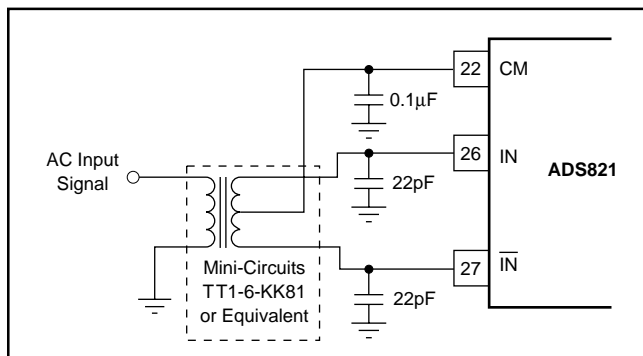

FIGURE 5. AC-Coupled, Single-Ended to Differential Drive Circuit Using a Transformer.
The ADS821 has a differential input with a common-mode of +2.25V. For AC-coupled applications, the simplest way to create this differential input is to drive the primary winding of a transformer with a single-ended input. A differential output is created on the secondary if the center tap is tied to the common-mode (CM) voltage of +2.25V, as per Figure 5. This transformer-coupled input arrangement provides good high-frequency AC performance. It is important to select a transformer that gives low distortion and does not exhibit core saturation at full-scale voltage levels. Since the transformer does not appreciably load the ladder, there is no need to buffer the CM output in this instance. In general, it is advisable to keep the current draw from the CM output pin below 0.5μA to avoid nonlinearity in the internal reference ladder. A FET input operational amplifier such as the OPA130 can provide a buffered reference for driving external circuitry. The analog IN and $\overline{\text{IN}}$ inputs should be bypassed with 22pF capacitors to minimize track-and-hold glitches and to improve high-input frequency performance.